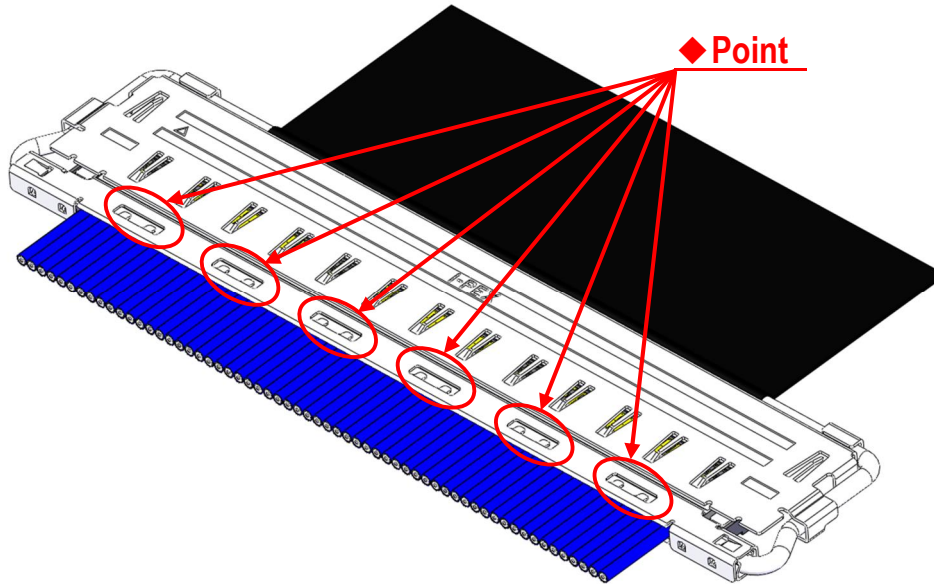

Fig.9 Soldering of Shell-A and Ground Bar
- ⑤ Soldering shell A, B and ground bar with the soldering iron at all designated points is recommended. (Fig.9,10 ◆ point)